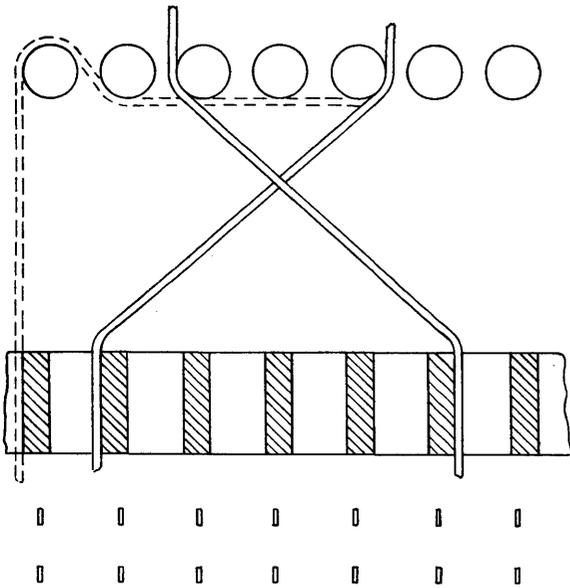

Fig. 1 - Terminating Markers - Method of Running Jumpers Cross Over Where the Marker Serves Number Groups Having More Than 20 HB Relays
4.05 Terminating Marker Frames: Where the marker serves number groups having more than 20 HB relays, and it is necessary to run a cross-connection from the HB punching to one of the NG-HB20 to 24 punchings, or when the marker serves a multi-office terminating unit where there are more than 10 number group connectors in each office and it is necessary to run a cross-connection from the ST punching to an NG-ST punching above 9, the crossovers should be made between the rows of pins as shown in Fig. 1.